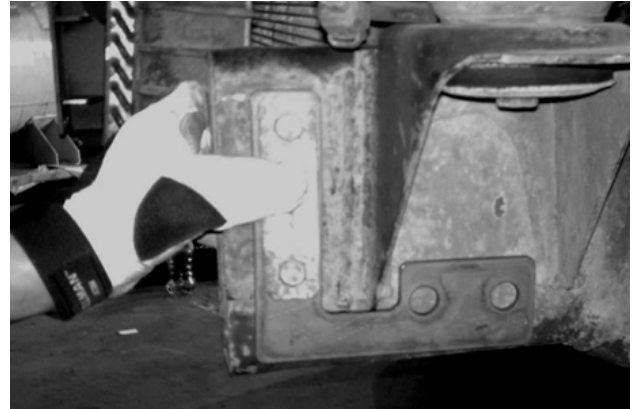

Figure 1
**1. Install drilling template using the OEM bolt strip (Figure 1). Note: From now on install the bolt strip from outside to in.**
**2. Using a center punch mark the two holes toward the rear of the truck (Figure 1).**